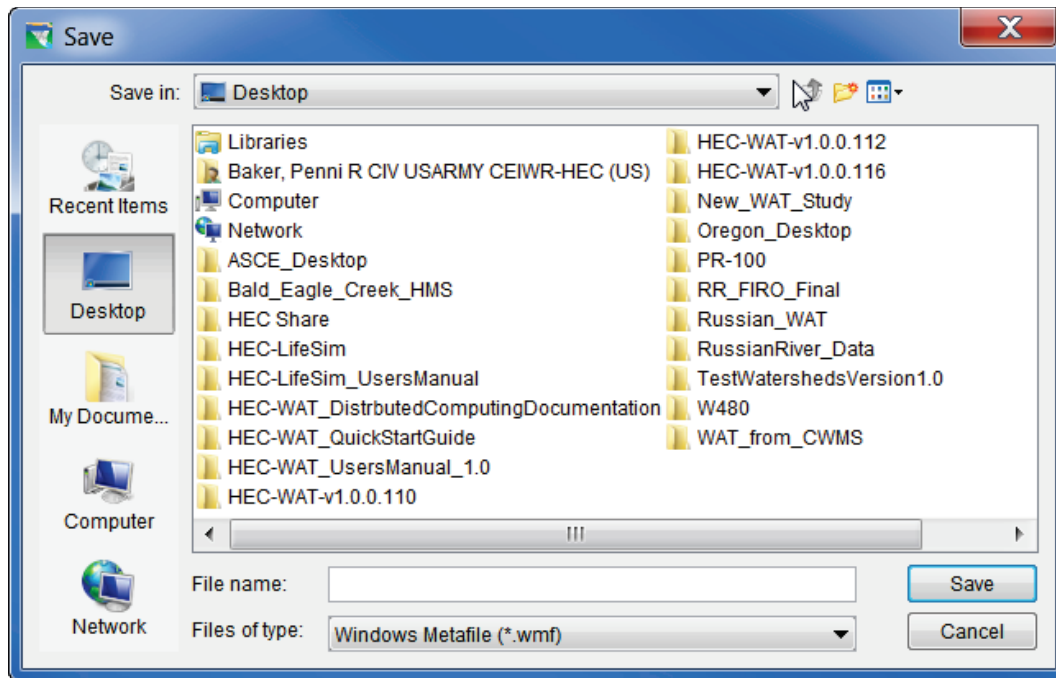

Figure N.12 Save Browser
1. On the **File** menu, click **Save As**, the **Save** browser will open (Figure N.12).